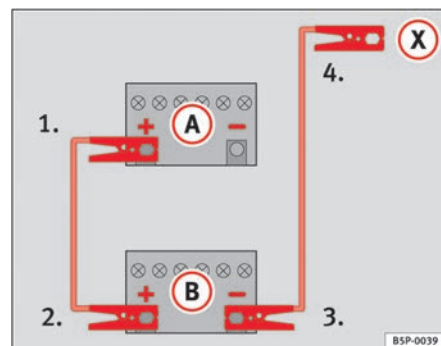

Fig. 158 How to connect the jump leads
In ⇒ fig. 158, the flat battery is (A) and the charged battery (B).
- 1. Connect one end of the red jump lead to the positive ⇒ fig. 158 (+) terminal of the vehicle with the flat battery ⇒ ⚠.
4. Connect the other end of the black jump lead (X) to a solid metal component which is bolted on to the engine block, or onto the engine block itself of the vehicle with the flat battery. Do not connect it to a point near the battery ⇒ ⚠.